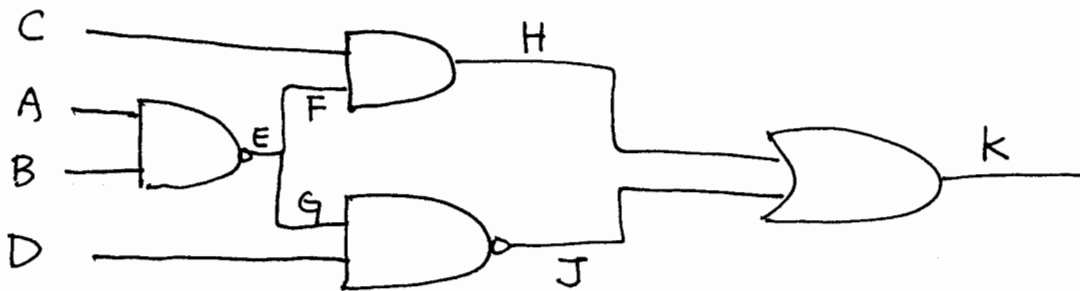

Fig. 3.
4. In Fig. 3, use concurrent fault simulation to see whether faults A/1, E/0, D/1, and J/1 will be detected when test pattern ABCD=0110 is applied. Show the process by drawing good gates and bad gates as we did in the class. Now, if the input pattern of ABCD is switched to 0101, show the change in good gates and bad gates. (17%)